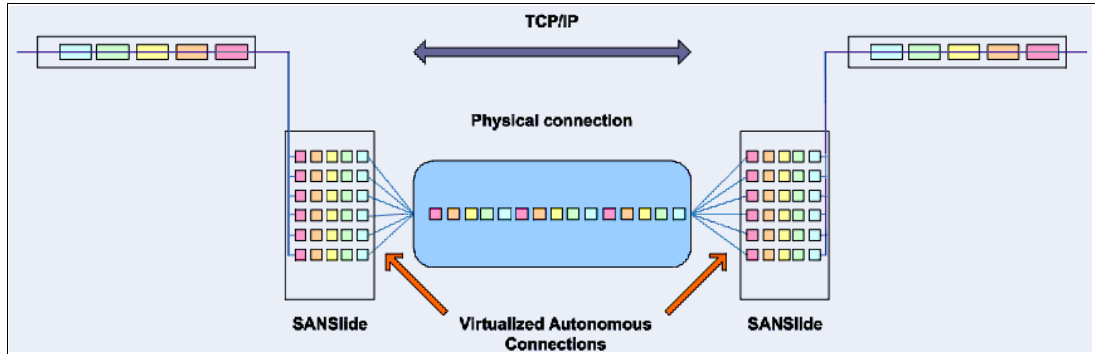

Figure 10-63 Optimized network data flow by using Bridgeworks SANSlide technology
However, by using the embedded IP replication, this behavior can be eliminated with the enhanced parallelism of the data flow by using multiple virtual connections (VC) that share IP links and addresses. The artificial intelligence engine can dynamically adjust the number of VCs, receive window size, and packet size as appropriate to maintain optimum performance. While the engine is waiting for one VC's ACK, it sends more packets across other VCs. If packets are lost from any VC, data is automatically retransmitted, as shown in Figure 10-63.